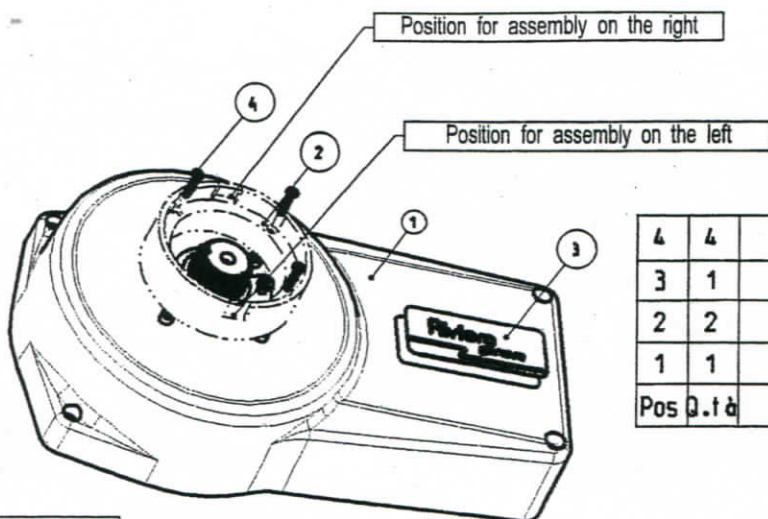

Fig. 1
1. The stop-ring shall be oriented according to the single lever control position in respect of the steering place, as shown in Fig. 1.
2. Insert the stop-ring (2) in its seat on the single lever box (1) and fasten it by means of n°. 4 self-tapping screws dia 2.9x16 (4).
3. Apply the rectangular label (3) on the box.